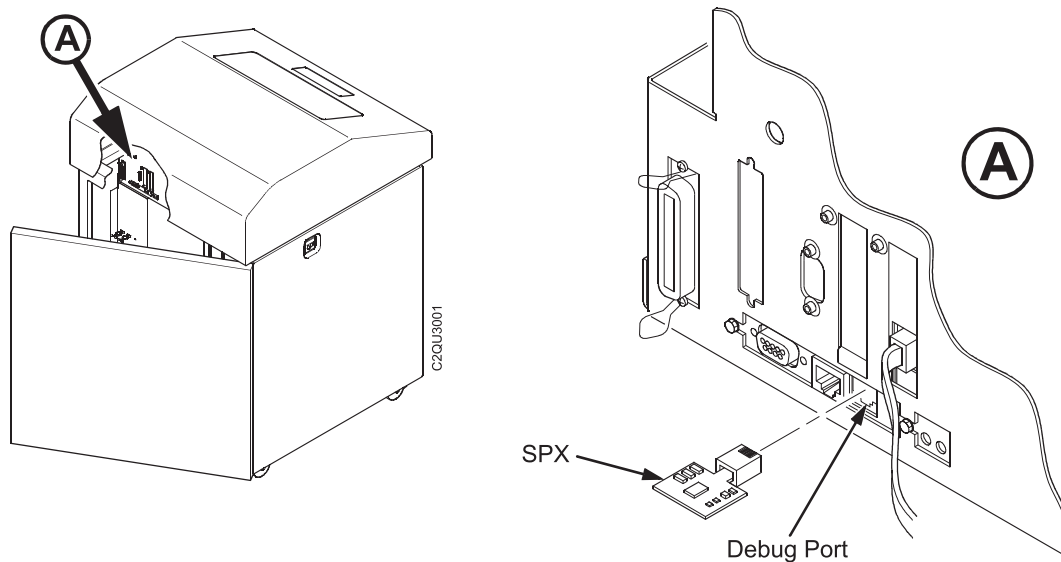

Figure 66. Inserting the SPX into the Debug Port
2. On cabinet models, open the rear door. On pedestal models, refer to Figure 66 to locate the debug port at the rear of the printer.